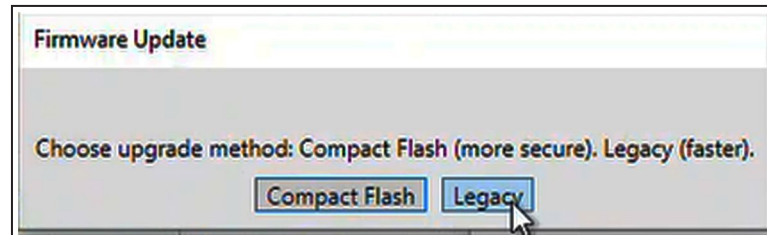

Figure 33. The Firmware Update dialog box.
STEP 15. The Firmware Update dialog box will prompt for selection of the update or downgrade method. Click on one of the options to proceed. See Figure 33.